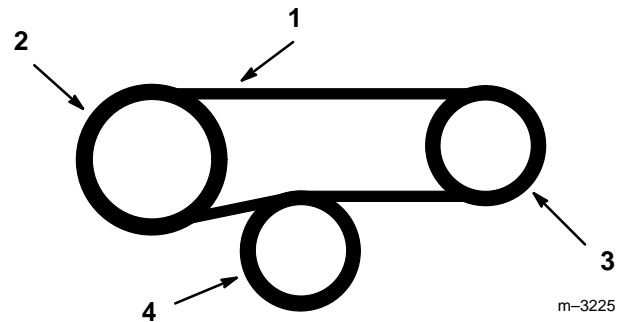

Figure 32
- Remove belts over clutch (Fig. 32).
- Install new belts over clutch. Align clutch hub key with crankshaft keyway and notch with stop bracket. Slide clutch onto crankshaft (Fig. 32).
- Route belts around clutch and gearbox pulleys and above spring loaded idler (Fig. 32).